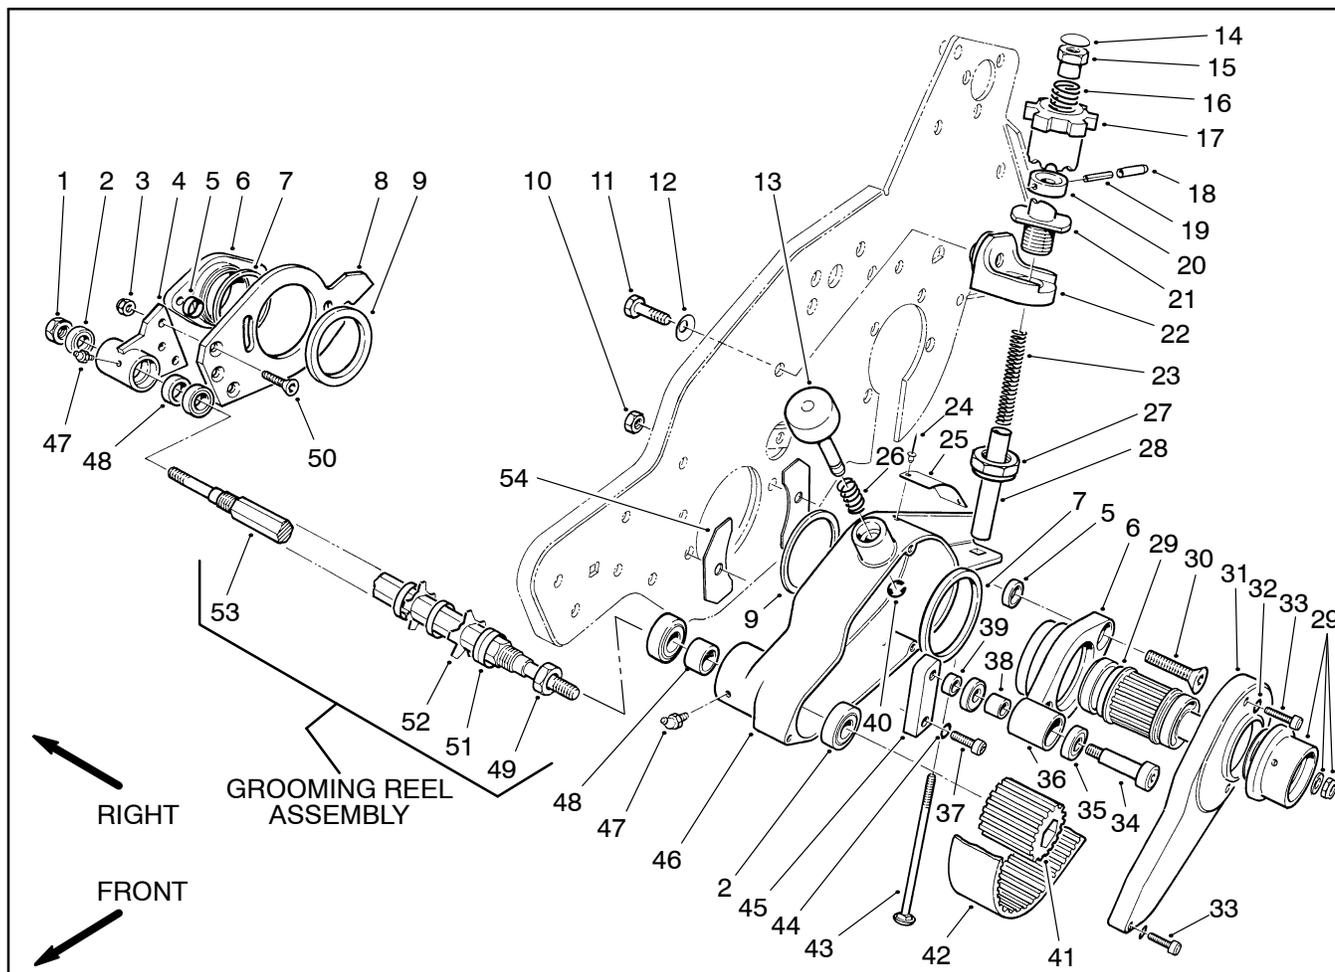
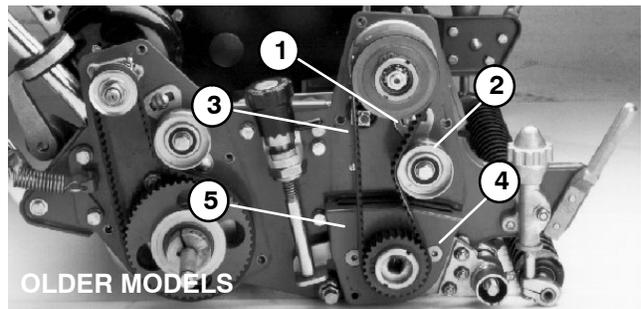
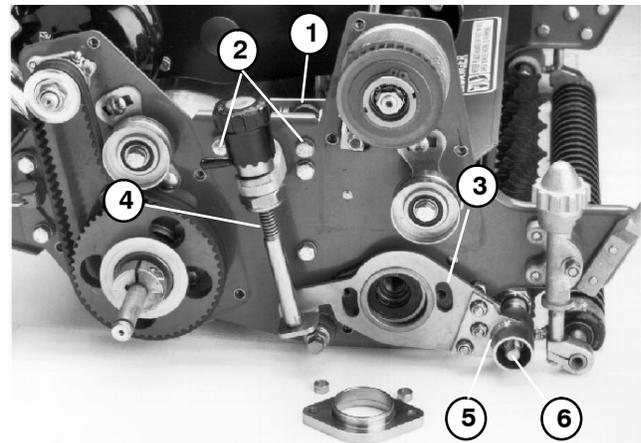

Figure 17
Figure 22
Figure 23
4. On older models, loosen both carriage bolts securing the reel idler bracket to the frame. Pivot idler pulley assembly away from the reel drive belt. (Fig. 22).
5. Remove the pulley and drive assembly and drive belt from the cutting reel shaft as follows (Fig. 22):
6. From the right side of the mower, remove the following (Fig. 17):
- A. Remove lock nut (1) securing the shaft (53) to the bearing housing (4).
- B. Use allen wrench to remove both flat head screws. Remove groomer arm cover from reel bearing housing (Fig. 22).
- C. Remove adapter (6), bearing (7) if necessary, spacers (5), and adapter ring (9) from the side plate (8).
7. On both sides of the mower (Fig. 23),
- C. Remove cap screw (11) and belleville washer (12) (inside of frame) securing mounting block (22) to the mower frame (Fig. 17).
9. Remove the three socket head cap screws (33) and lock washers (32). Remove belt cover (31) from the belt drive housing (46) (Fig. 17).
10. In the belt drive housing (46), disassemble the following parts (Fig. 17):
- A. Loosen socket head cap screw (37) and idler pulley (36), then remove drive belt (42) from the driven pulley (41).
13. Pull side plate with the groomer adjuster and bearing housing from the grooming reel shaft and reel bearing housing (Fig. 23).